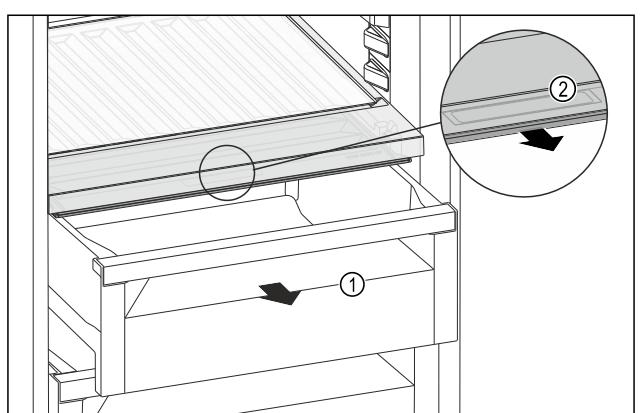

Fig. 132
- Pull out the drawer Fig. 132 (1).
- Grasp the recessed grip Fig. 132 (2) on the compartment lid and pull the compartment lid forwards at the same time.